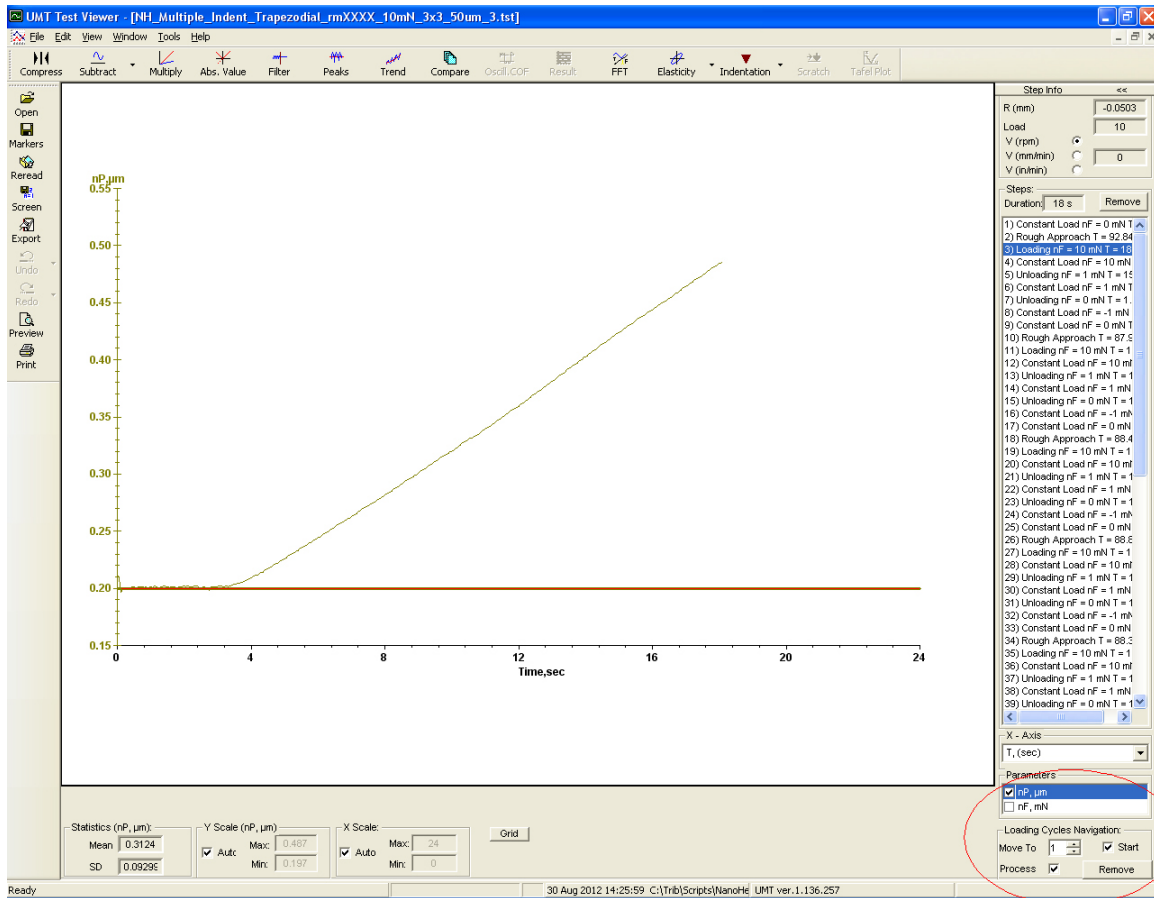

Figure 31: Load Cycle Navigation.
- 10) To cycle through the indents on the nP vs time curves you can use the “Loading cycles navigation” window highlighted in Figure 31.